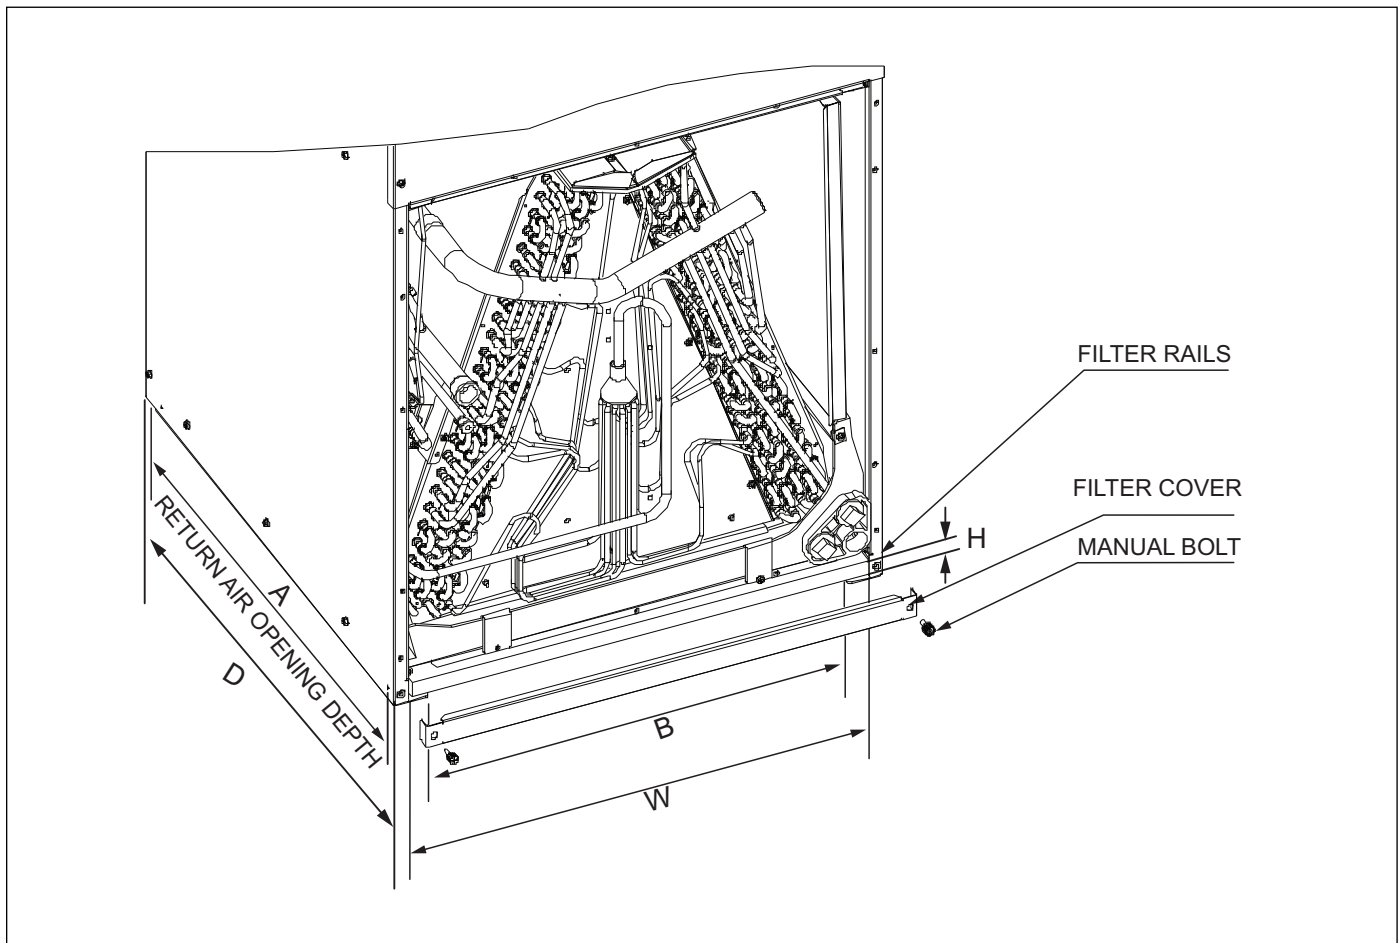

Figure 16 Filter Installation
- ▶ Remove bolts manually, remove air filter cover, see Figure 16.